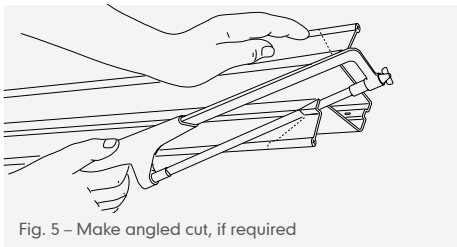

Fig. 5 – Make angled cut, if required
- 7 Trim top flanges of batten section to maintain angle of external corner of hip. If necessary, make a horizontal cut in walls of batten section, to enable it to fit over fascia upstand (Fig. 5).